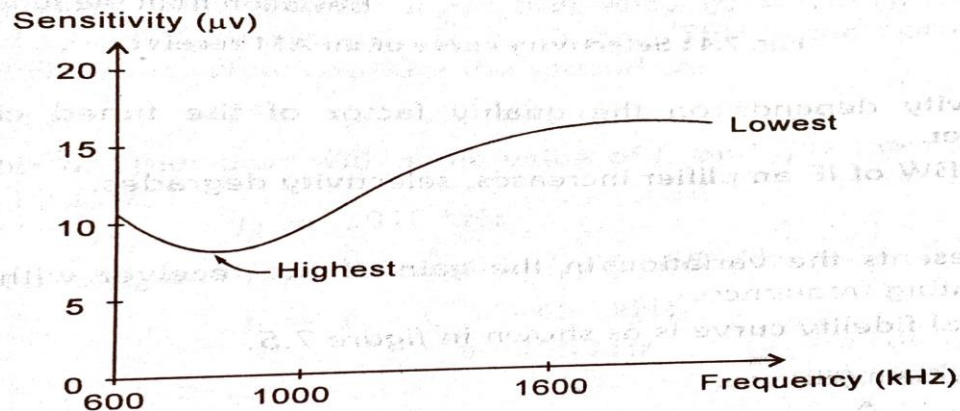

Fig. 7.3 : Sensitivity curve of an AM receiver.
- Sensitivity changes with frequency as shown in figure 7.3.